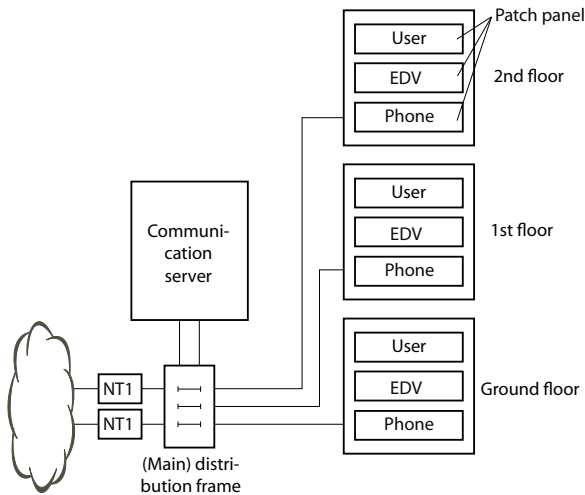
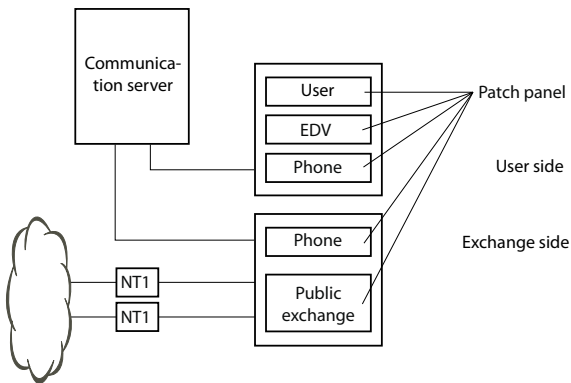

Fig. 32 Connecting to a UBC via a (main) distribution board (example)
Fig. 33 Connecting to a UBC via wiring centre (example)
- Indirect cabling via (main) distribution frame and any universal building cable installation (UBC) (see also Fig. 32 and Fig. 33).